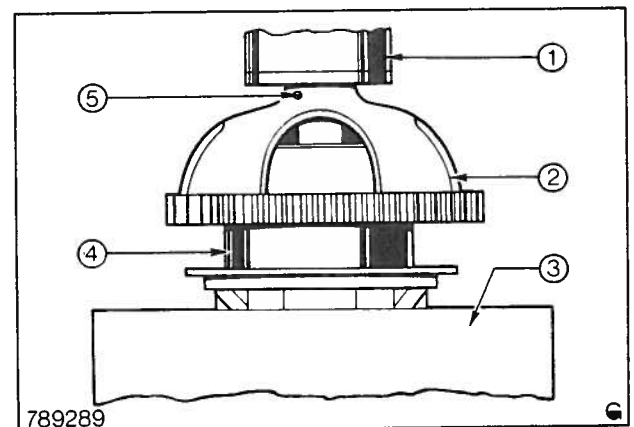
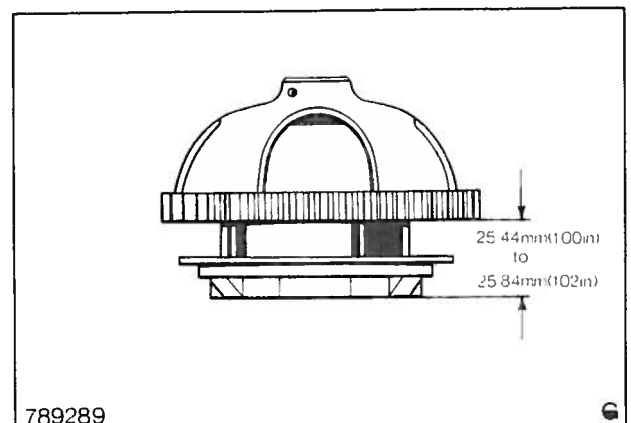

Fig. 9 Pressing the Drive Gear into position
Fig. 10 Positioning the Oil Pump Drive Gear
8. Support the base of the rotor shaft, Fig. 9, to prevent movement of the shaft within the rotor.
10. Press the gear onto the shaft, Fig. 9, to a dimension of between 25,44 and 25,84 mm (1,00 to 1,02 in) from the rear face of the gear to the face of the cover, Fig. 10.